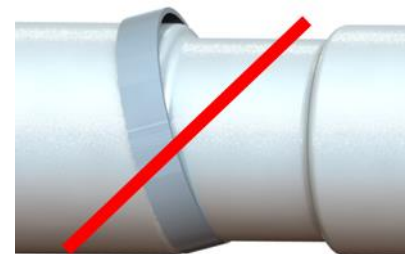

Figure 28
- Do not install clamps at an angle (Fig. 28)